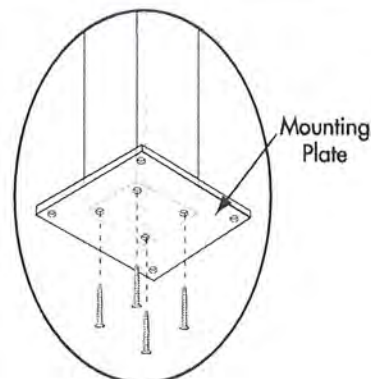

Figure 1
- 1.) Attach mounting plate to posts with 1/4" x 2 1/2" phillips head screws *Figure 1*.